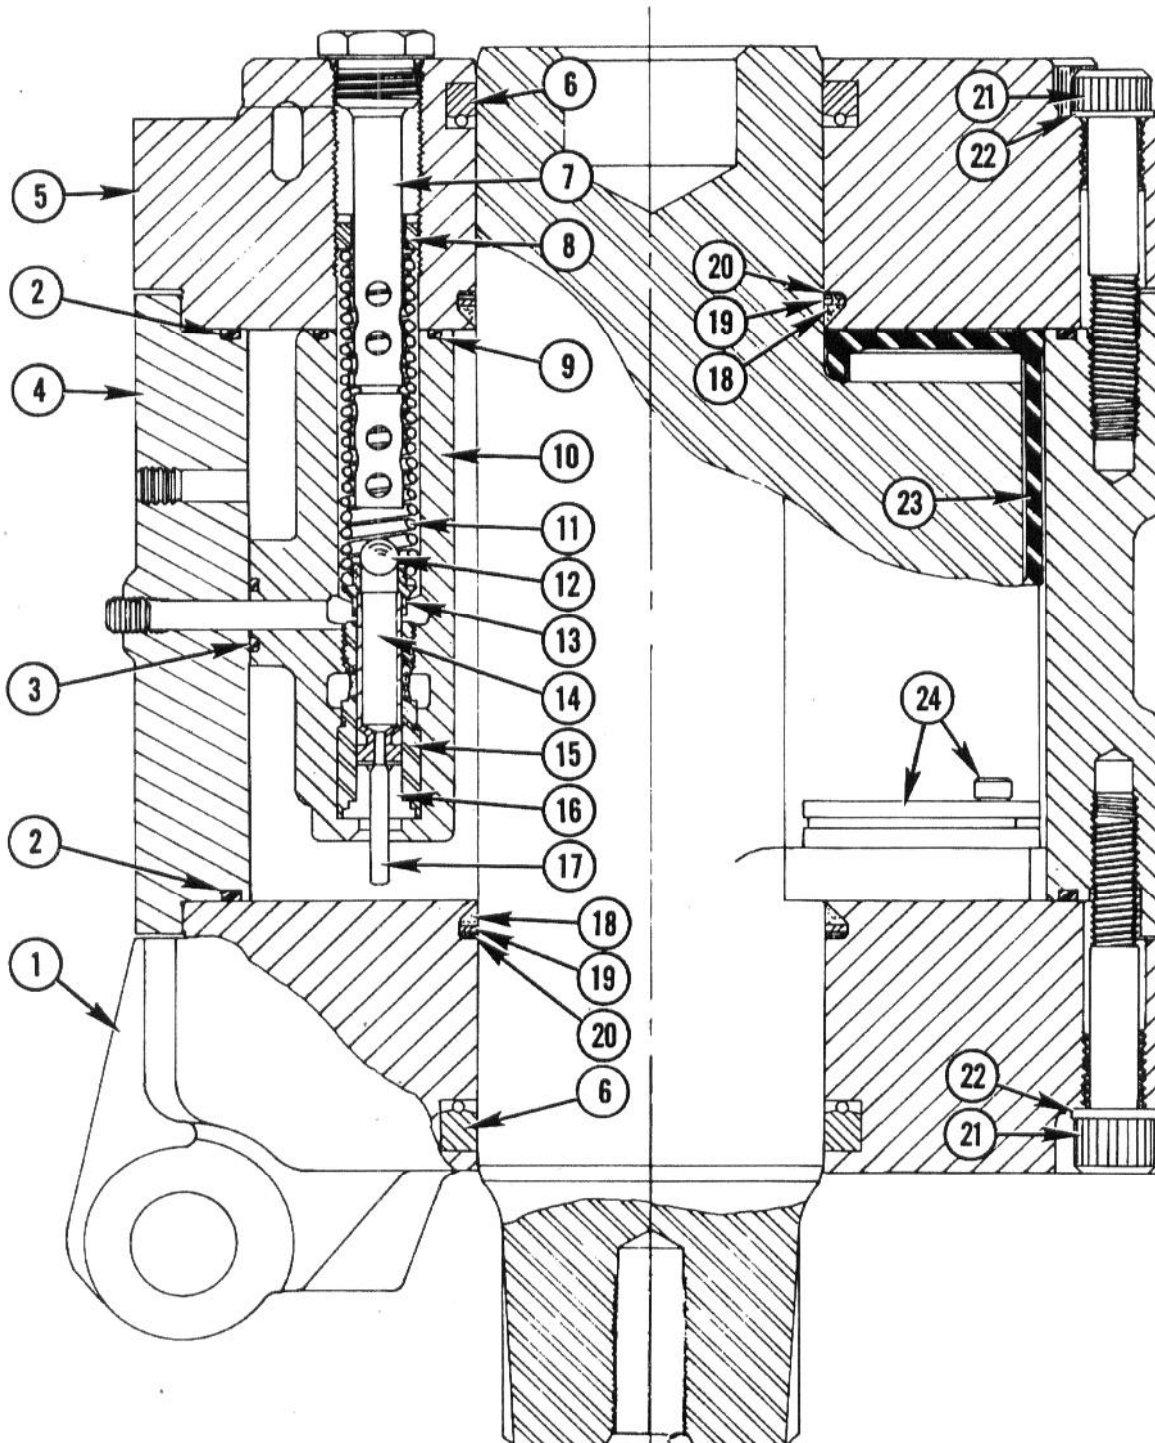

Fig. 29 — Cutaway of Rotary Cylinder MF Part No. 729 829 M91 — Relationship of Seals and Cushioning Mechanism Shown
16. Remove the shaft seals from their grooves in the lower end plate. See Fig. 29.